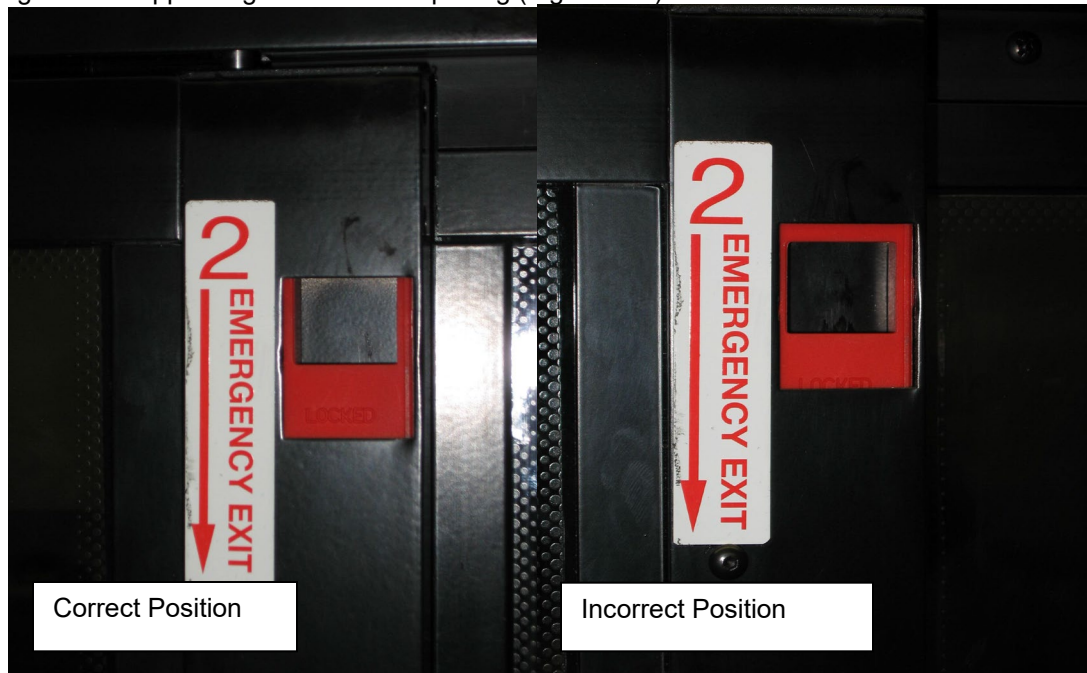

FIGURE 111: RELEASE LATCH PROPER POSITION
6. Confirm that both latches are in the closed (latched) position. The upper edge of the latch opening must be aligned with upper edge of the sash opening (Figure 111)